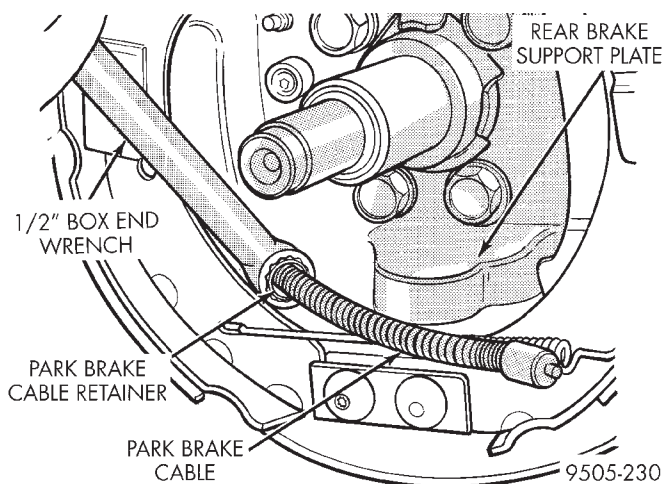

**Fig. 75 Removing Park Brake Cable From Support Plate**
(7) Position a 1/2 wrench over the retainer fingers on the end of the parking brake cable (Fig. 75). Compress cable housing retaining fingers and start cable housing out of support plate (Fig. 75). Remove wrench when retainer is free from the park brake cable mounting hole in the rear brake support plate. Alternate method is to use a aircraft type hose clamp over cable housing end fitting compressing the three fingers.